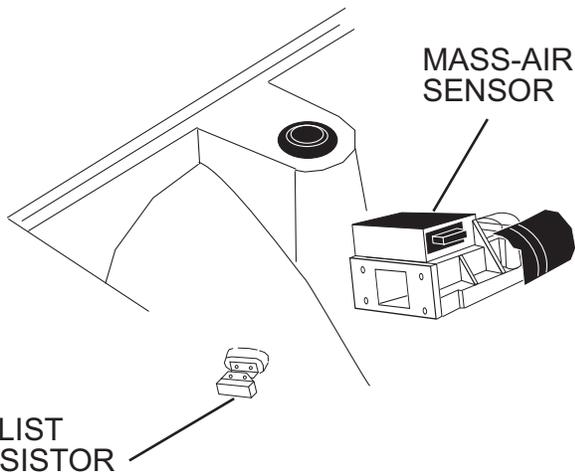

fig. 1
- 6) Remove the two bolts from the ballist resistor.(see fig.1)